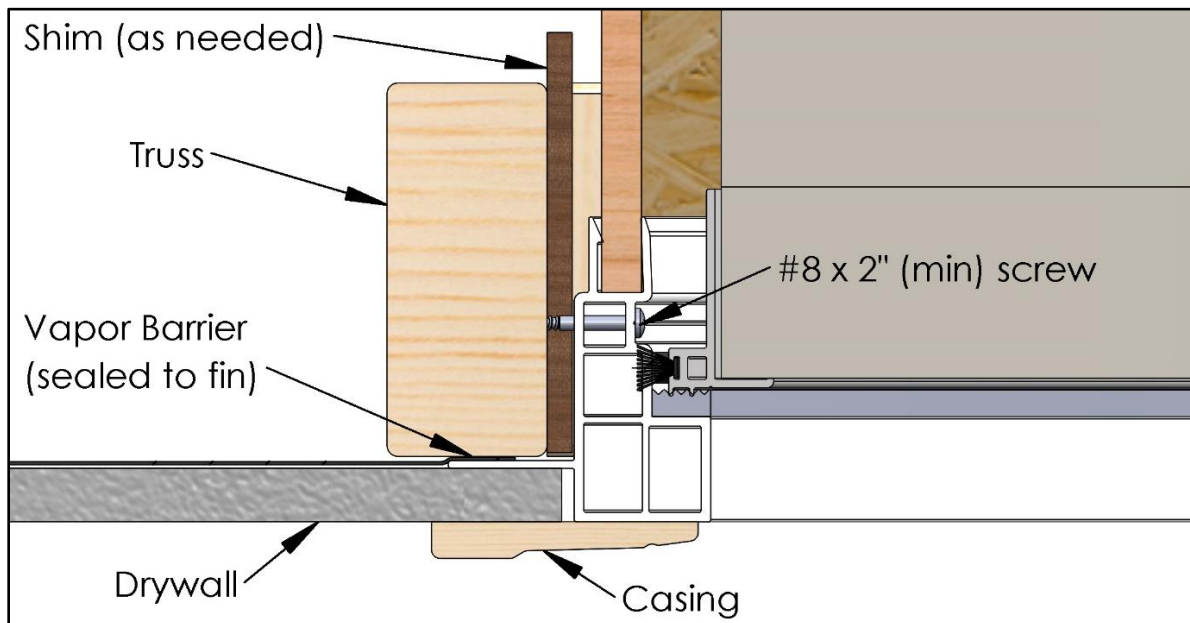

Figure 3
8. **Securely seal vapor barrier to the nail fin to avoid condensation buildup in the attic. (Fig. 3)**
9. Install drywall and casing as shown in Fig. 3.